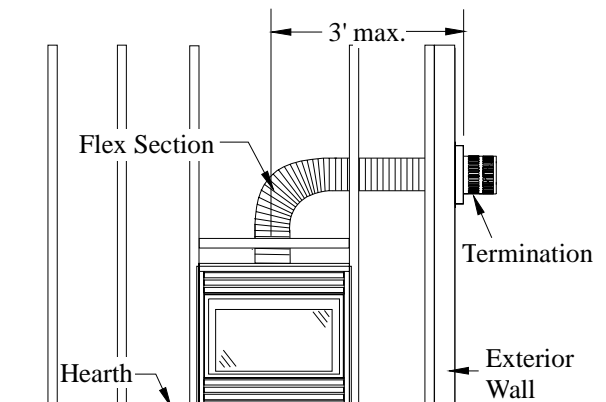

Figure 12. Horizontal flex installation with no vertical rise.
"D" flex sections and "E" solid sections may be used in conjunction with one another to obtain different possible horizontal length installations. **NOTE:** Flex section must not exceed maximum horizontal length of 3 feet. (see Figure 12).
- Flex sections with no vertical rise must not exceed maximum horizontal length of 3 feet (see Figure 12).